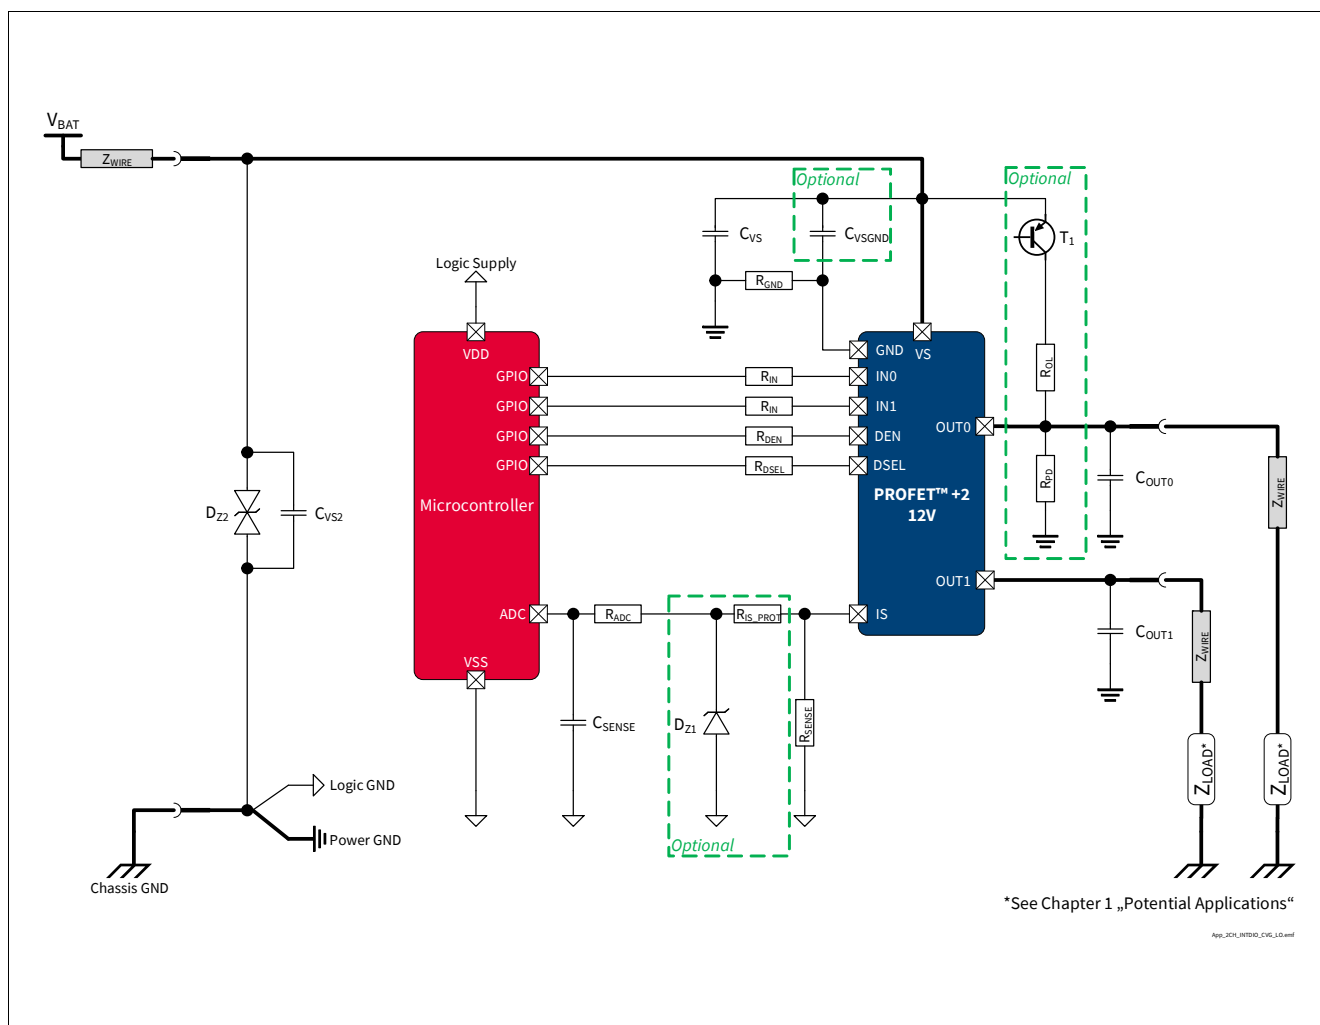

Figure 43 BTS7012-2EPA Application Diagram
1.05 , 2019-10-15	P_8.7.3.1, P_8.7.3.7, P_8.7.3.8 updated (added in Note or Test Condition: link to Figure 25) P_7.5.3.4, P_7.5.3.5 updated (added in Note or Test Condition: DEN = “low”; link to Figure 19) P_7.5.3.12 updated (added in Note or Test Condition: see Figure 21 ; deleted unnecessary space in Symbol: $ dV_{OUT} / dt \rightarrow dV_{OUT} / dt $) P_8.7.3.6 updated (added in Note or Test Condition: see Figure 26) P_9.7.3.1 updated (added in Note or Test Condition: See Figure 34) P_9.7.3.6 updated (Min./Typ./Max.: -45%/4800/+45% → -34.0%/4875/+34.0%) P_9.7.3.9 updated (Min./Typ./Max.: -38%/4800/+38% → -25.0%/4875/+25.0%) P_9.7.3.12 updated (Min./Typ./Max.: -34%/4800/+34% → -22.5%/4875/+22.5%) P_9.7.3.15 updated (Min./Typ./Max.: -22%/4800/+22% → -12.5%/4875/+12.5%) P_9.7.3.17 updated (Min./Typ./Max.: -9%/4800/+9% → -7.7%/4875/+7.7%) P_9.7.3.19 updated (Min./Typ./Max.: -6%/4800/+6% → -4.5%/4875/+4.5%) P_9.7.3.21 updated (Min./Typ./Max.: -5%/4800/+5% → -4.0%/4875/+4.0%) P_7.5.3.11 updated (added in Note or Test Condition: see Figure 19) Figure 1 , Figure 43 updated Chapter 1 updated (or LED equivalent → or equivalent electronic loads (e.g. LED modules)) P_4.3.0.7 added Table 24 updated Chapter 5.1 updated (added: see Chapter 10 for the complete application setup overview)